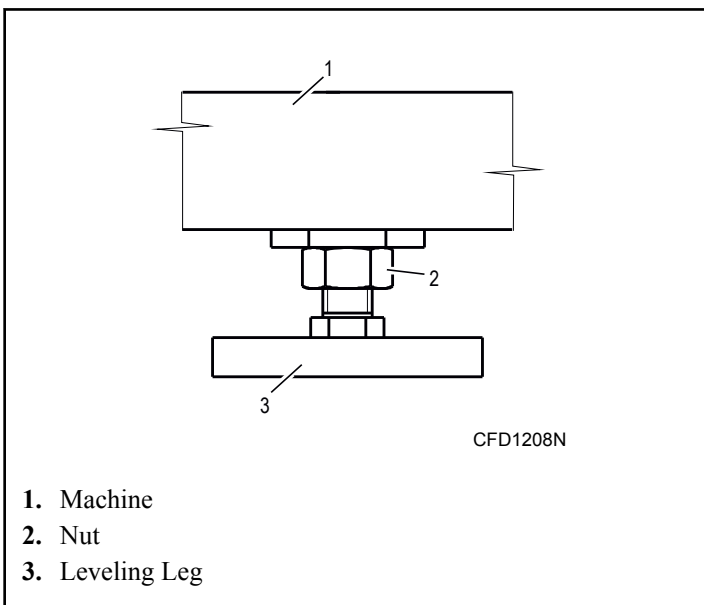

Figure 11
**IMPORTANT:** After leveling is complete, tighten the nut securely against the machine's base. Refer to *Figure 11* .